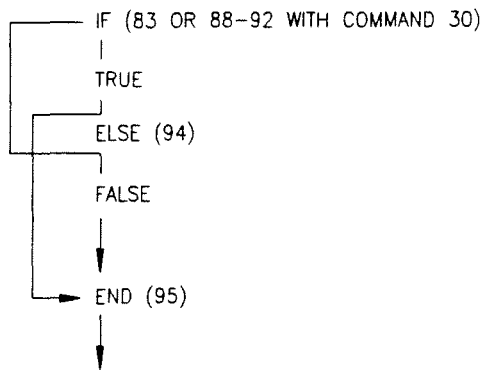

FIGURE TM8.1-1 If Then/Else Execution Sequence
Program Control Instructions can be used for If then/else comparisons. When Command 30 (Then do) is used with Instructions 83 or 88-92, the If Instruction is followed immediately by instructions to execute if the comparison is true. The Else Instruction (94) is optional and is followed by the instructions to execute if the comparison is false. The End Instruction (95) ends the If then/else comparison and marks the beginning of the instructions which are to be executed regardless of the outcome of the comparison (Figure TM8.1-1).